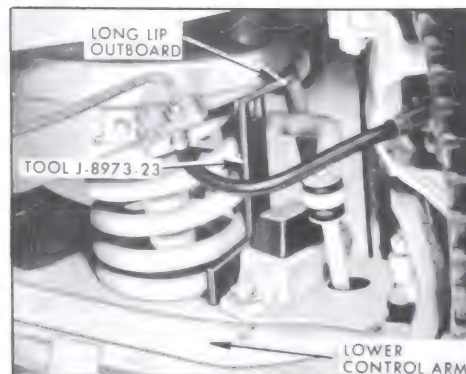

Figure 7-31—Front Alignment Height Tool in Place
8. Car must be on level surface. Install alignment height Tool J-8973-23 between frame and lower control arm at each front wheel as shown in Figure 7-31.